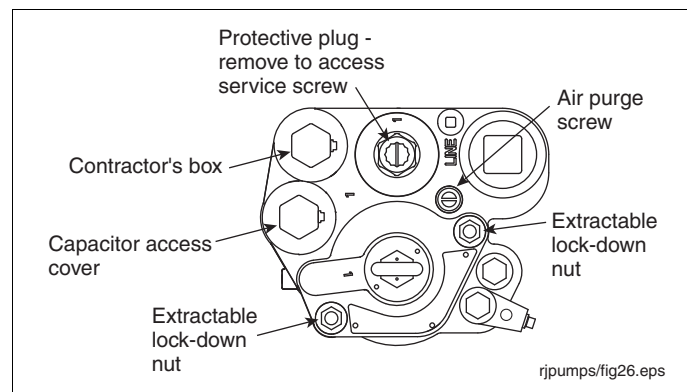

Figure 29. Extractable lock-down nuts
2. Remove the two extractable lock-down nuts (see Figure 29). The springs on the lock-down studs between the extractable's flange and the manifold will push the extractable up, breaking the seals.
12. Turn the air purge screw 2 - 3 turns counterclockwise (see Figure 29).